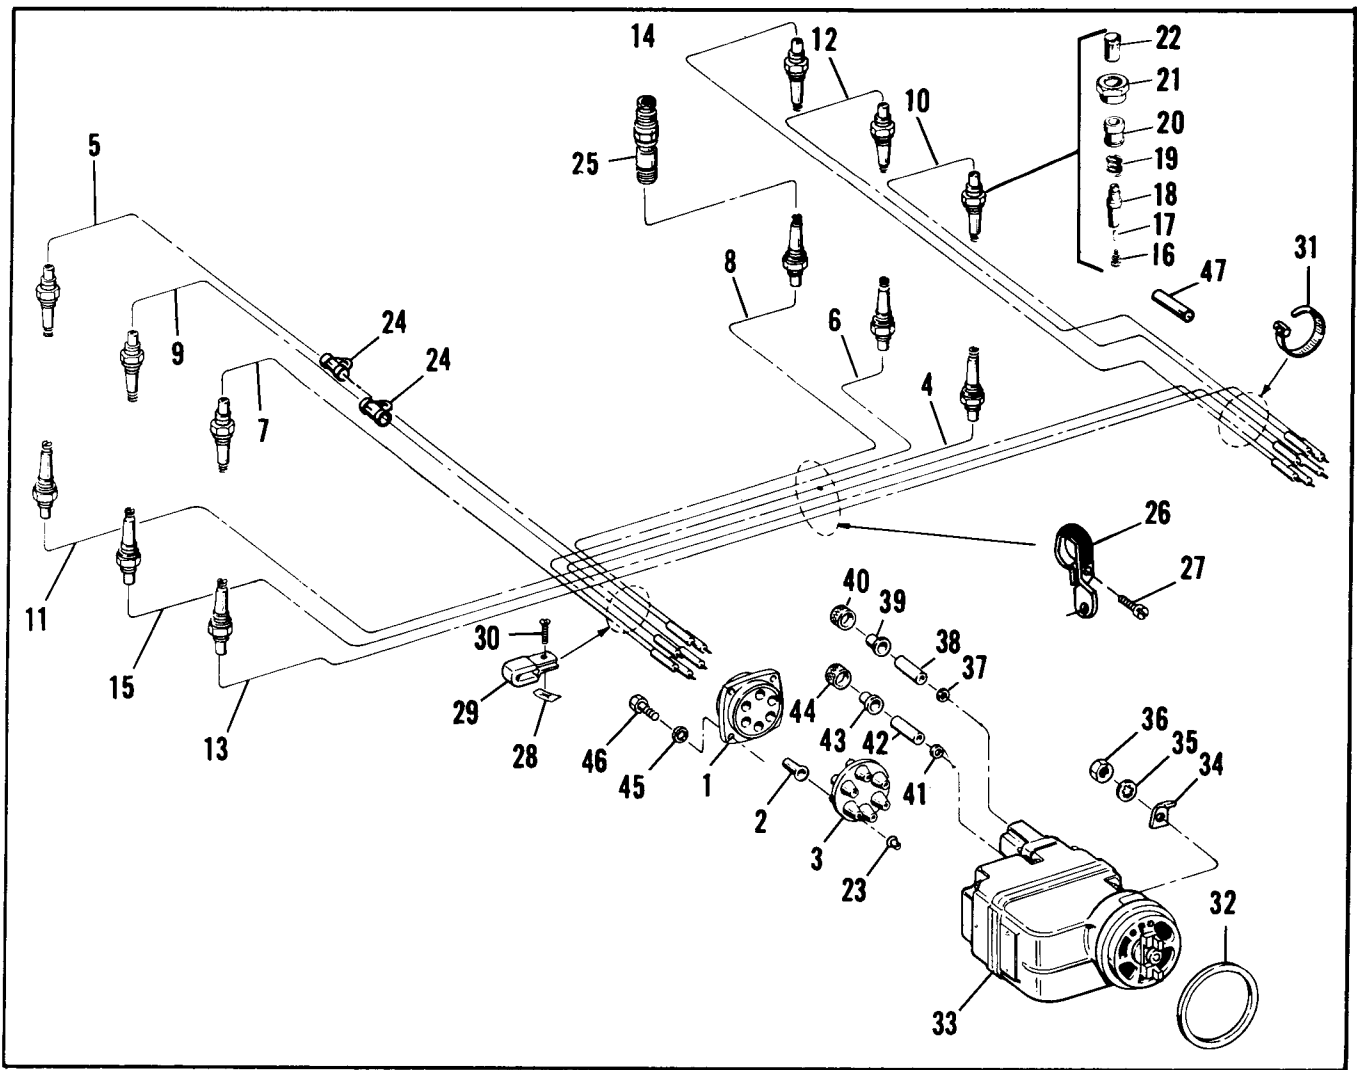

FIGURE 5-12. EXPLODED VIEW OF TYPICAL IGNITION SYSTEM.
5-38. IGNITION CABLES. Normally, all ignition cable assemblies or harness assemblies should be replaced at each overhaul. If the high tension outlet plates are in good condition, new cable assemblies and grommets may be installed on them and the cable ends secured to the grommet of each harness with a brass washer and a cable piercing screw, installed as in the original assembly. If only the cable assemblies and grommets are to be replaced, leave the cable clamping bracket on the original cables of each harness, and detach all cables from the high tension outlet plate by removing the cable piercing screws from their ends in the plate grommet. When the coupling nuts are unscrewed the cables may be withdrawn and the grommet removed from the plate. Observe the "1" mark on the exterior side of each outlet plate adjacent to the No. 1 cable outlet hole. Refer to Figure 5-12 and observe that the numerals appearing at magneto ends of the high tension cables correspond to the consecutive order of outlet plate
cable holes, while the relative positions of spark plug elbows indicate the installed positions of the cables. Install cable assemblies (3 through 14, Figure 5-12) in the indicated positions in the two outlet plate and grommet assemblies (1 and 2), starting with the proper No. 1 cable assembly in the marked hole of each plate, and proceeding in consecutive order around the plates. As each cable end is inserted, screw in the cable coupling nut (33), and tighten it; then place one of the brass washers (16) and a cable piercing screw (17) at the grommet hole, and turn the screw in firmly but not enough to cut the wire strands. When all cables have been attached to the two outlet plates, locate a clamping bracket (18) on the proper cables of each harness in the same position as on the original cables, and install a rivet (19) to secure it. Parts indexed 21 through 32 will be installed at final assembly. This group should be collected and ready for installation. Parts indexed 33 through 37 are installed on the aircraft ignition switch wires. If replacement of spark plug ends is necessary, proceed with disassembly as indicated (Items 38 through 45) for Slick Harness, and (Items 46 through 52) for Bendix Harness.